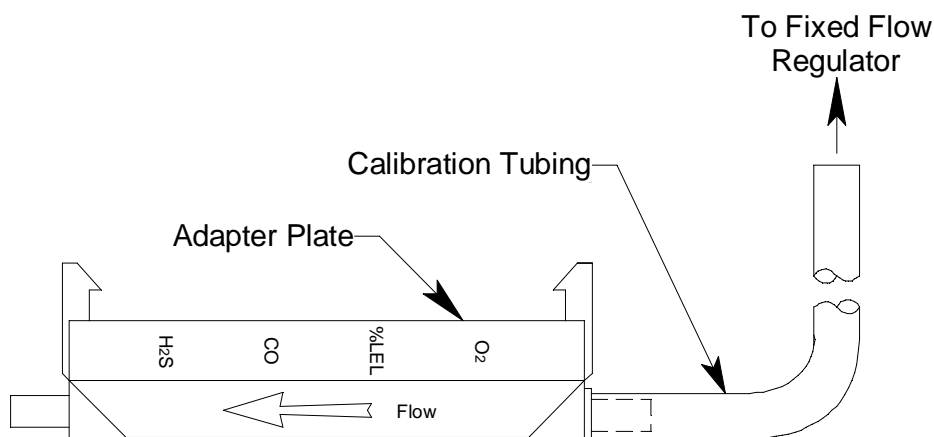

Figure 9: Calibration Kit Assembly
- Use the sample tubing to connect the calibration adapter plate to the regulator. Attach the tubing to the adapter plate on the inlet side as shown below in Figure 9.